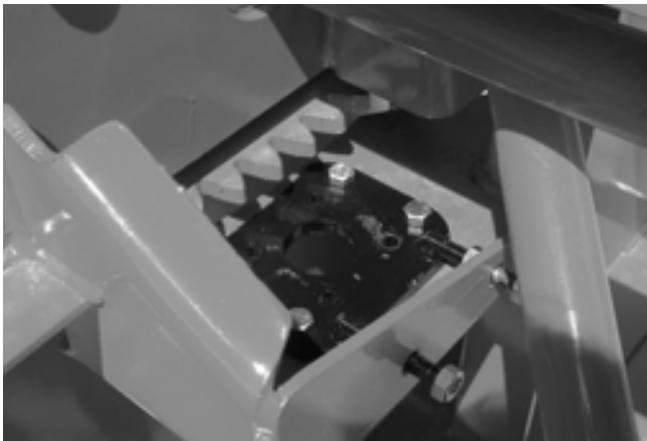

Figure 25
- 2) Install the mounting plate tightening the bolts lightly (Fig. 25).